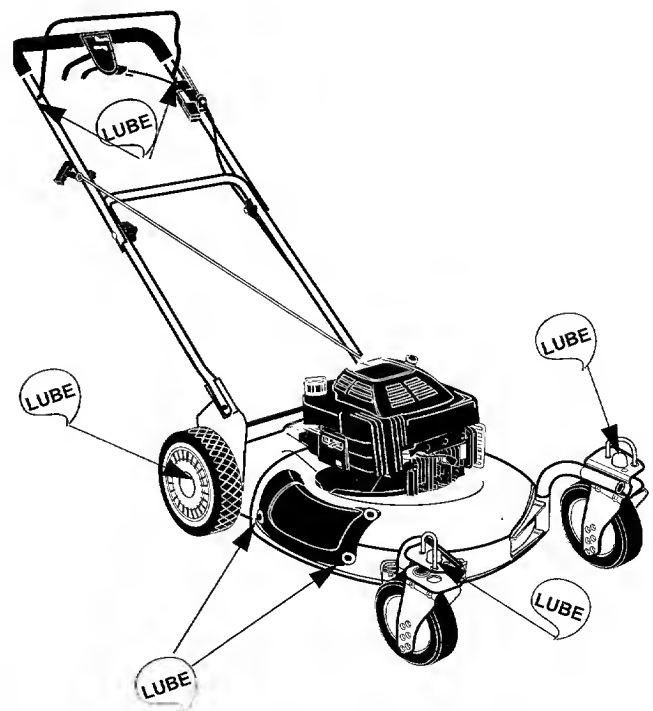

Figure 11
(Refer to Figure 11.)
- Lubricate mower following the lubrication chart in Figure 11 of this manual.